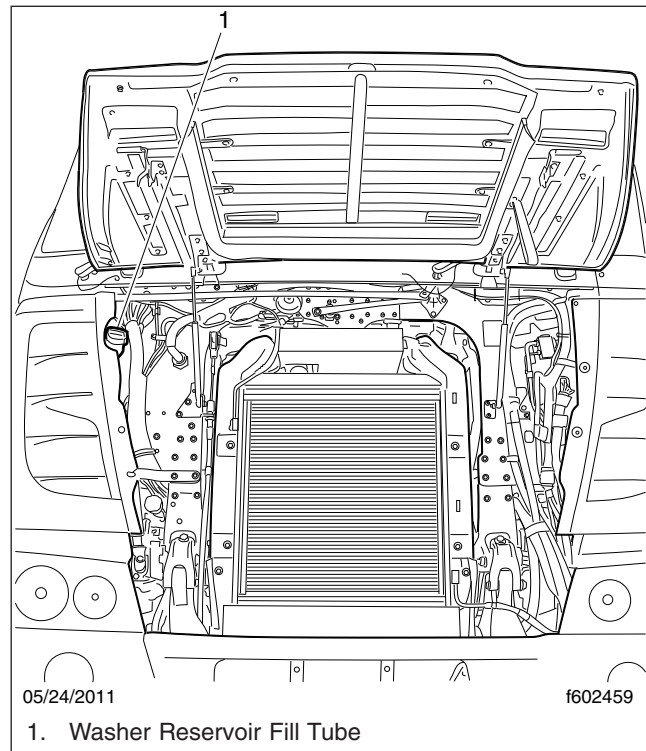

Fig. 23.7, Windshield Washer Reservoir Location (right-hand side location shown)
4. Check the windshield washer reservoir fluid level. See Fig. 23.7.